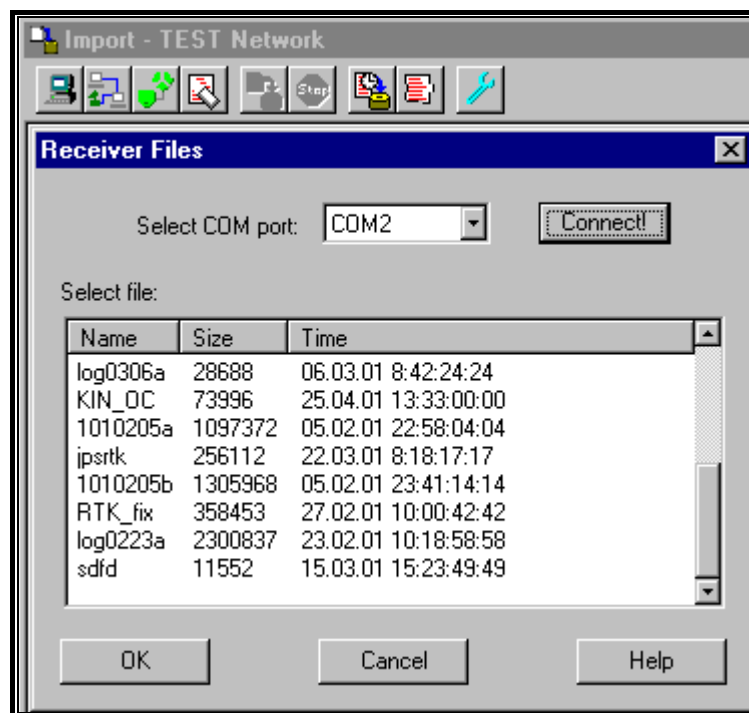

Figure 4-1
- 3) The user will select the correct port from the *Select COM port* listbox and press the *Connect!* button. After Pinnacle has polled the receiver and accessed the file system information, the user will see a list of the logfiles stored in the receiver memory (see Figure 4-1).